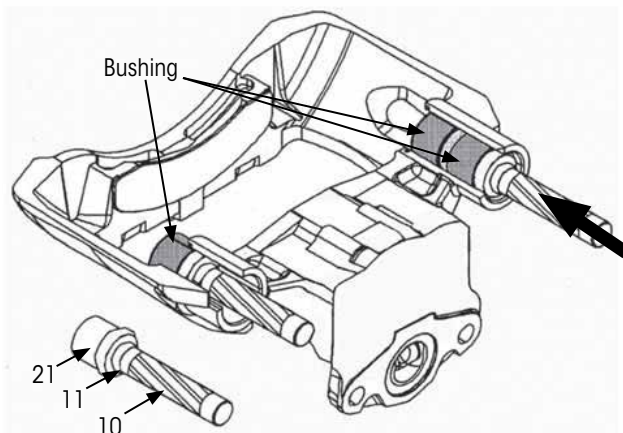

Figure 58: Removing caliper guide pin bushings
4. Assemble and use 10, 11 and 21 to press the bushings out of the brake caliper (Figure 58).